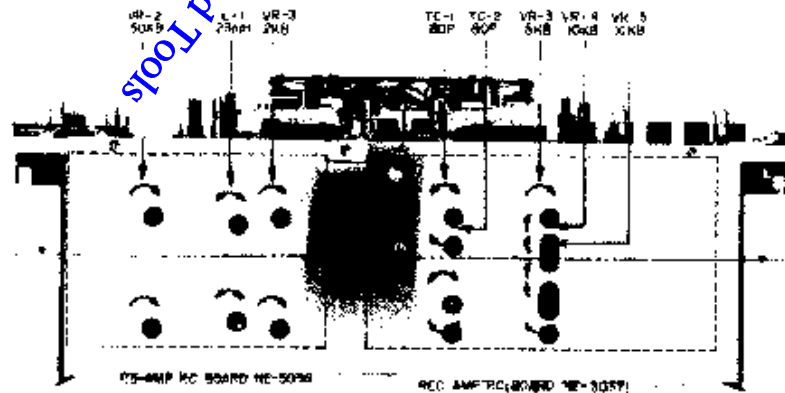

Fig. 15
3. RECORDING AND PLAYBACK AMPLIFIER ADJUSTMENT (Refer to Fig. 15)